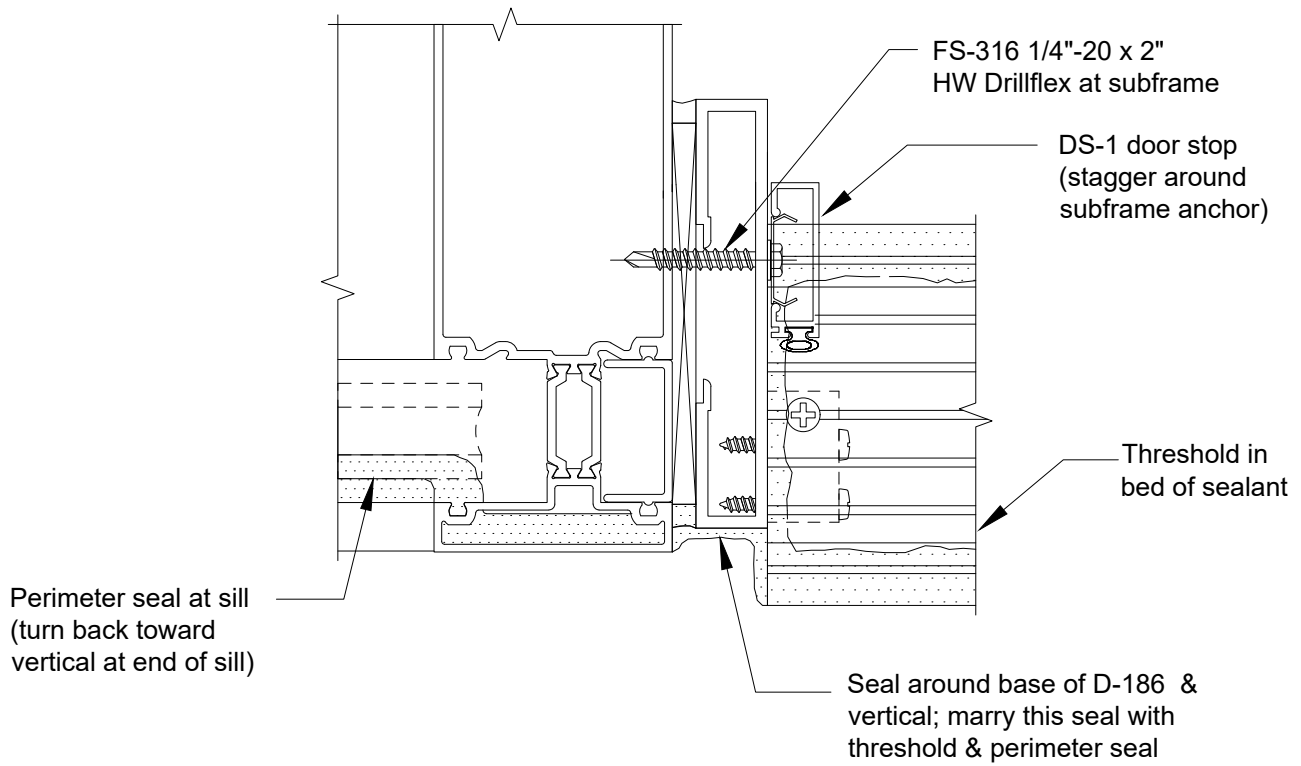

FIGURE 40
C.2.4 Bed threshold in sealant, attaching TH-44 clips with FS-42 #12 x 1/2" Phillips Flat Head screws. Marry threshold seal with subframe and main system seal. **SEE FIGURE 40, Page 40.**